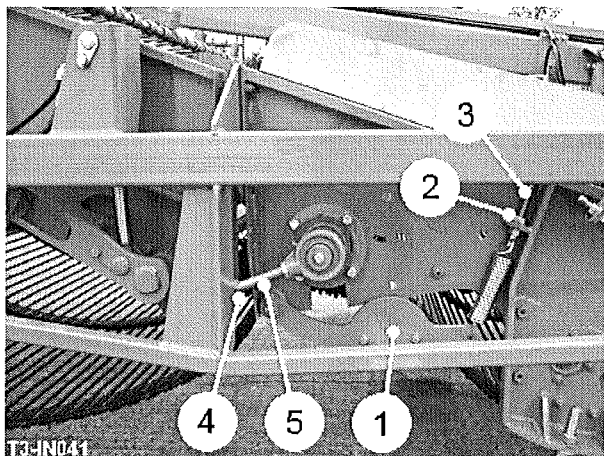

Fig 7
The standard specification machine is fitted with a 2500mm wide 36mm pitch digger web. Should an alternative pitch be required to suit crop and soil conditions this will be a special requirement and will need to be discussed with Standen Engineering Ltd. The spring-loaded tension rollers (item 1, fig 7) maintain the drive on the return side of the web. To tension the web, loosen the locknuts (item 2, fig 7) and reposition the spring adjuster (item 3, fig 7). Ensure both sides are adjusted equally.
The drop height from the digger web to the sieving web can be adjusted using the 'Web Split' button on the slave box. The gap between the two webs can be manually set according to the crop size, and the separation required. The gap is adjusted by releasing the locknuts (item 5, fig 7) and moving the adjuster (item 6, fig 7) until the required gap is obtained. Ensure both sides are adjusted evenly.